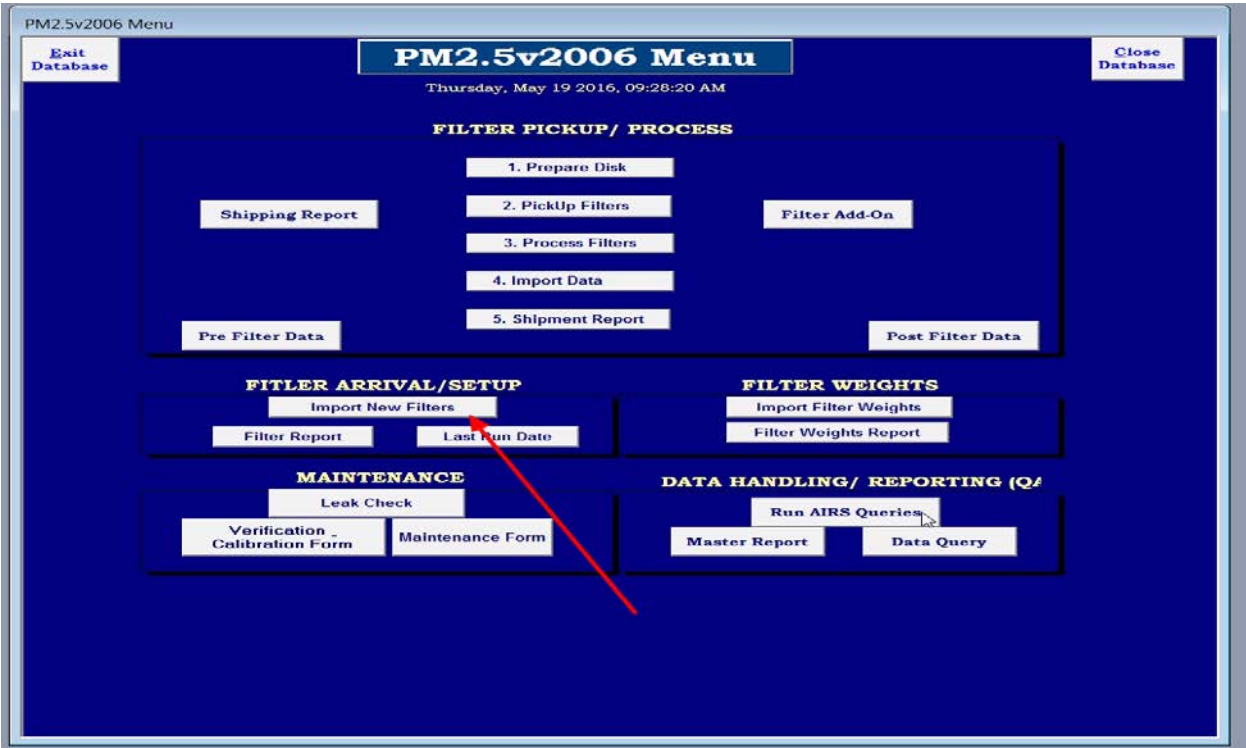
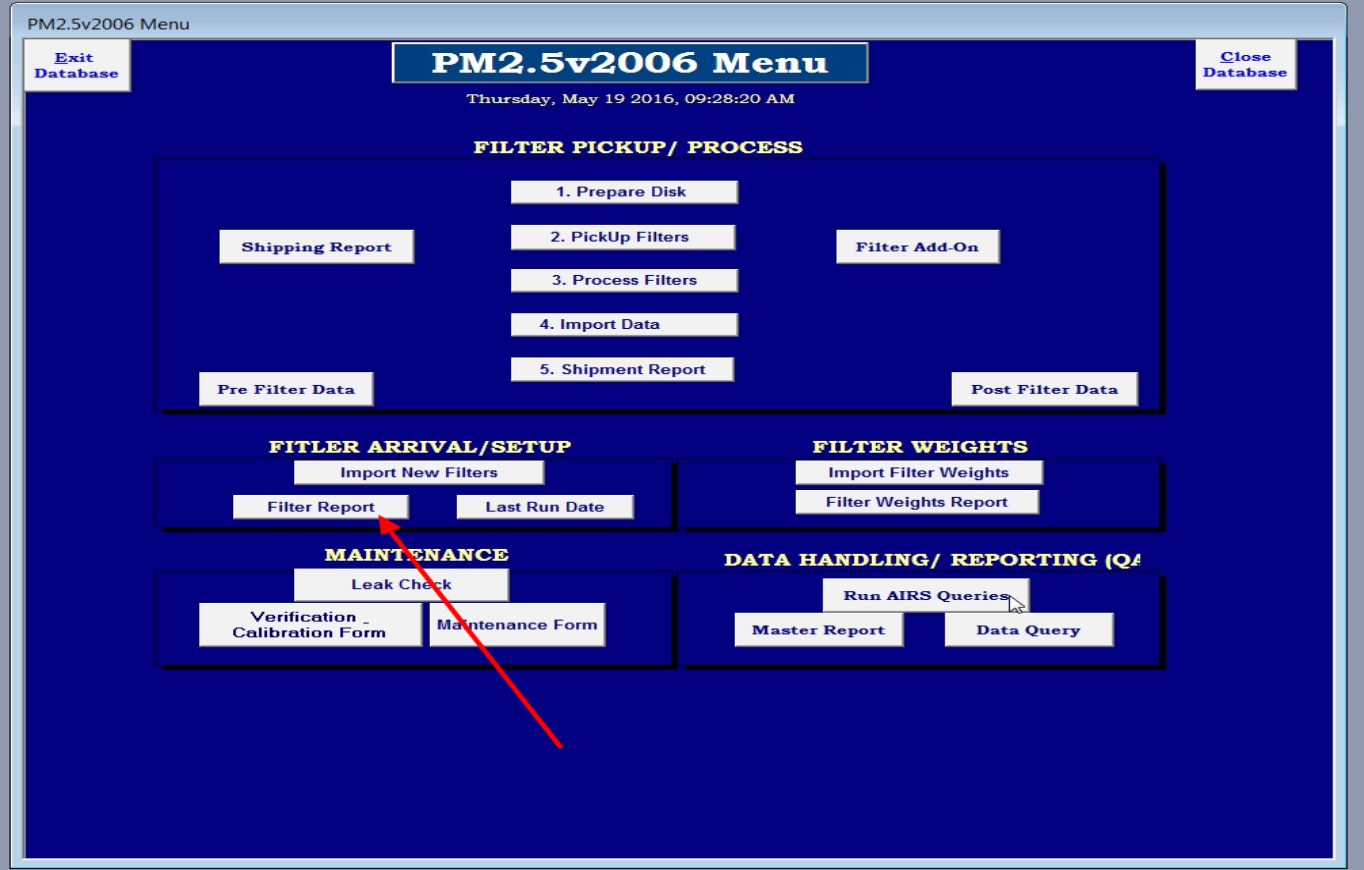

Figure 16: Import New Filters Button
Figure 17: Filter Report Button
6.4.1.6 Open Access (S:\PM_{2.5}\DATABASE\PM_{2.5}V2006) Press the “Import New Filters” button (see Figure 16). Press the “Filter Report” button (see Figure 17).